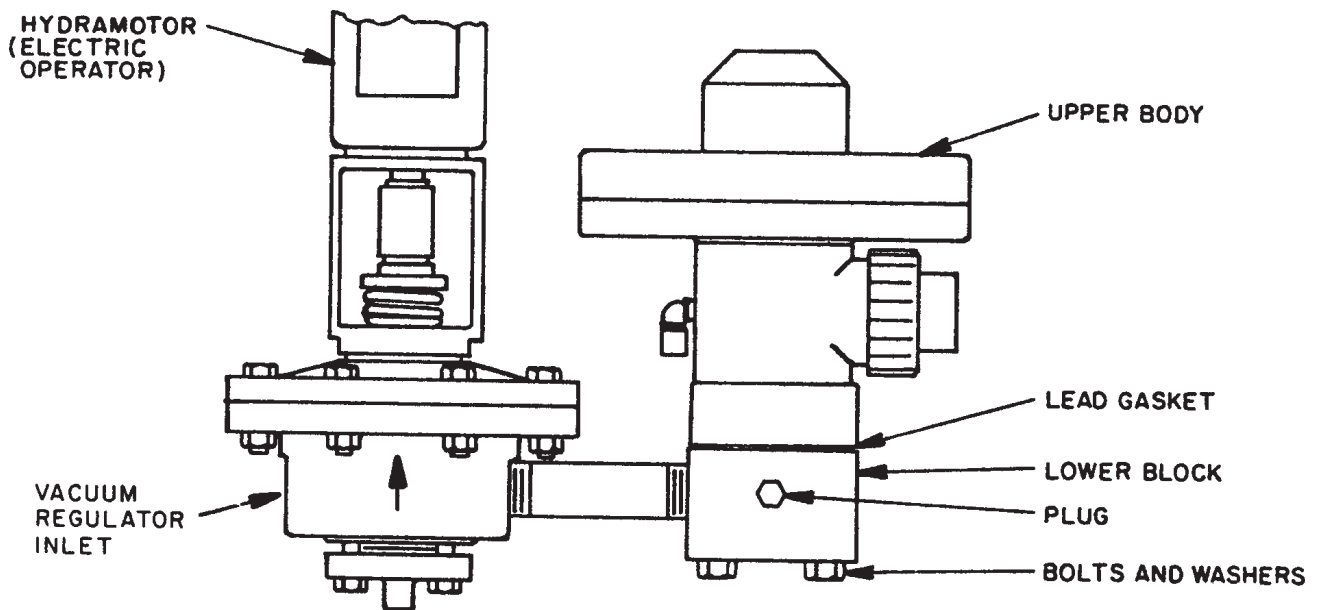

Figure 1
- c. Inspect gasket groove in lower block to ensure surface is not damaged. Install a new lead gasket into groove in lower block (see Figure 1).